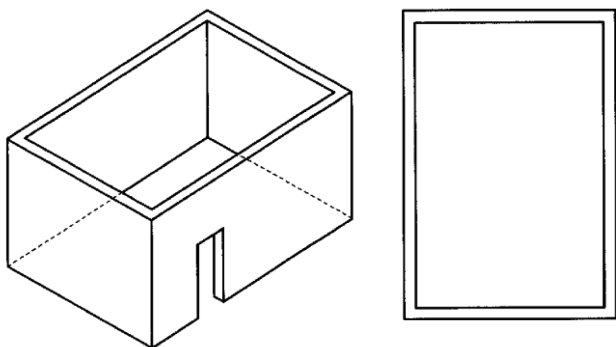

Figure 1 - Enclosure with walls on all sides but no overhead cover
- An enclosure with walls on all sides, but at least one permanent opening at ground level and no overhead cover. See Figure 1.